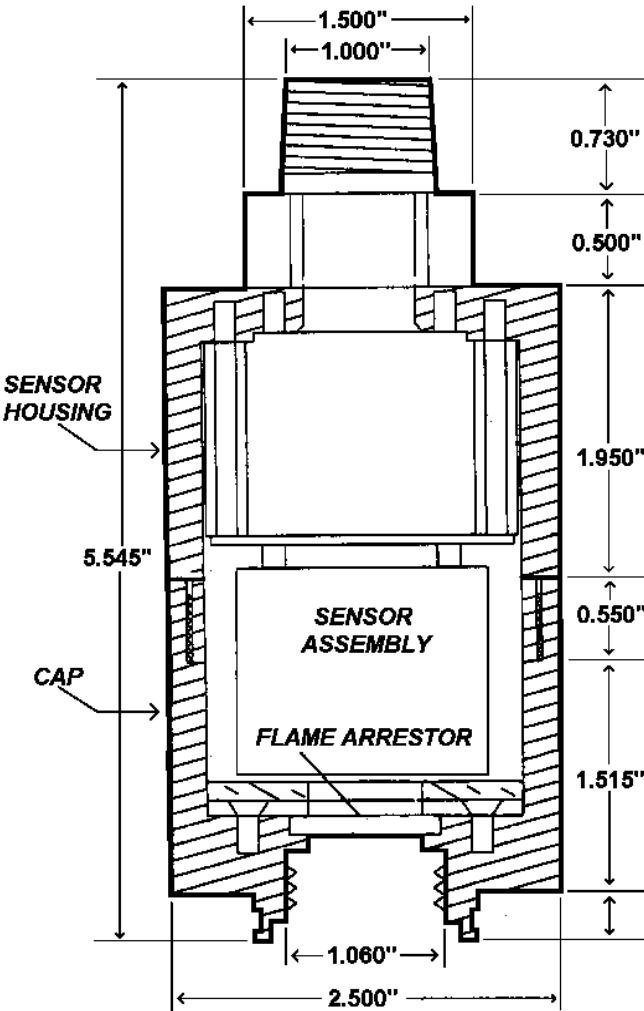

Figure 1 - H₂S Detector Assembly
Refer to *Figure 1*
- ▶ The sensor should be installed with **the flame arrestor pointing down** (refer to *Figure 1*) to prevent build-up of contaminants and enhance weather resistance.